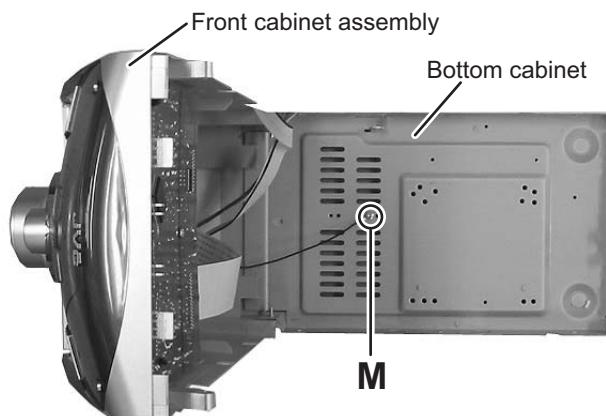

Fig.12
(See Figs.12 to 14)
- (1) From the top side of the main body, remove the one screw **M** attaching the earth wires on the bottom cabinet. (See Fig.12)